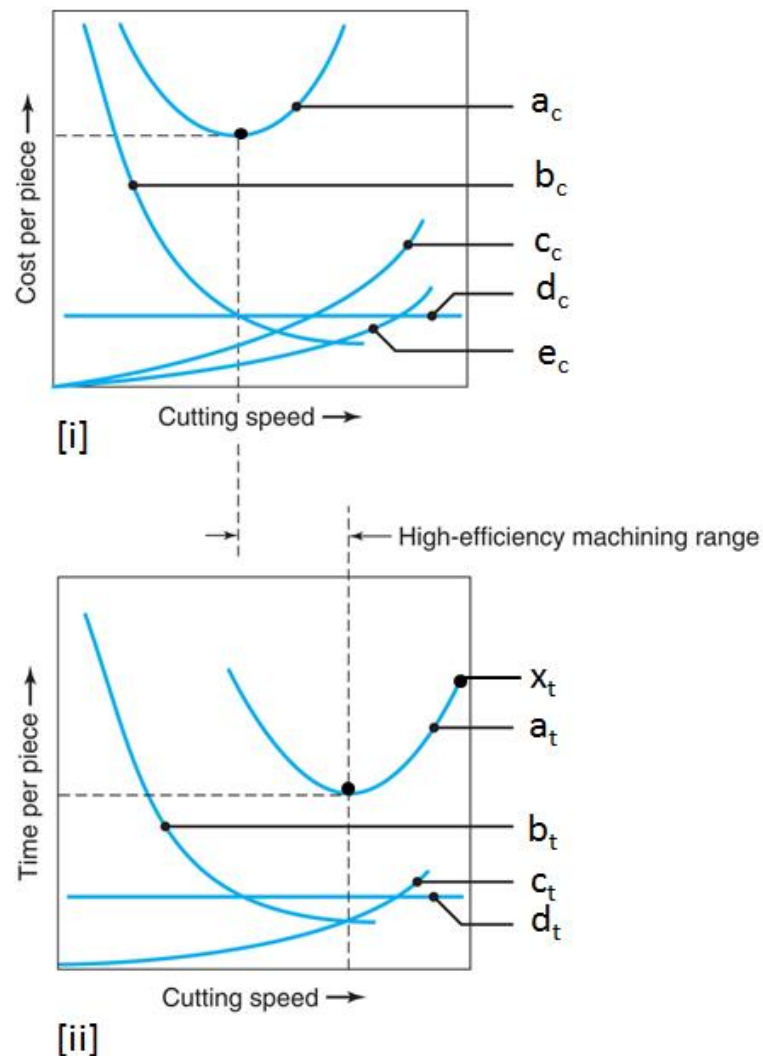

Figure 2[b]
- [b] Figure 2[b] shows the graph of cutting speed against [i] cost per piece and [ii] time per piece in the machining of motorcycle engine block. Given the a_c , b_c , c_c , d_c and e_c in Figure 2[b][i] represents the costs to determine the optimum cutting speed, while the a_t , b_t , c_t and d_t in Figure 2[b][ii] represents the time to determine the optimum cutting speed.
- (i) Name a_c , b_c , c_c , d_c and e_c in Figure 2[b][i].
From Figure 2[b][ii], if the maximum cutting speed at point $x_t = 134.16$ m/min is twice the optimum cutting speed for maximum production, calculate the tool life constant value for this machining process.